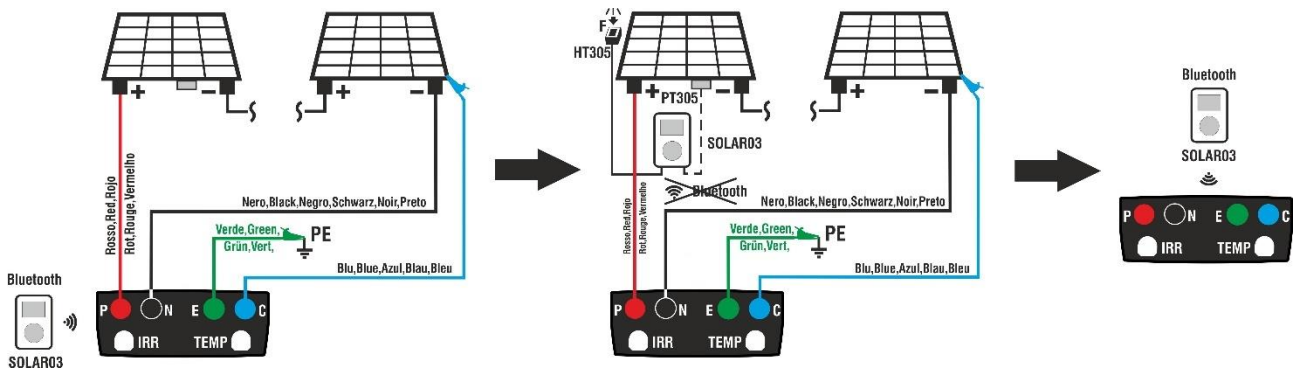
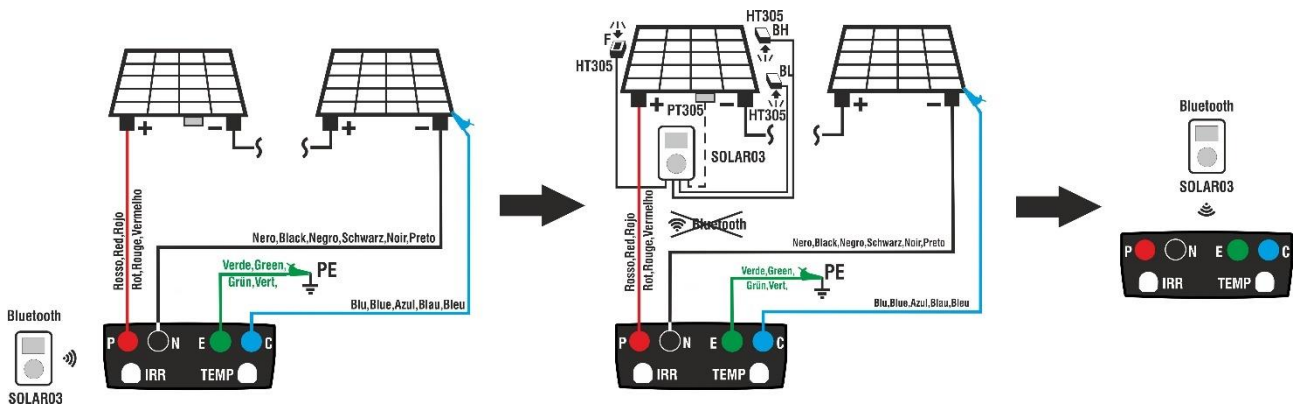

Fig. 14: Connection of SOLAR03 in recording on Monofacial PV modules
Fig. 15: Connection of SOLAR03 in recording on Bifacial PV modules
2. Connect the instrument to the PV module/string being tested and to the main earth node of the system, and to the metal masses connected to earth as shown in Fig. 14 (Mono-facial modules) or Fig. 15 (Bifacial modules) In detail:
4. Move the SOLAR03 remote unit close to the instrument as shown in Fig. 14 or Fig. 15 – left side part
7. Move the remote unit close the modules and connect the irradiance/temperature probes as shown Fig. 14 or Fig. 15 – middle side part. **Since recording has already been activated on remote unit SOLAR03, it is not necessary to maintain the Bluetooth connection anymore.** Maintaining the connection (if possible) will only allow to immediately obtain the outcome of the test without waiting for the measuring campaign to be completed.